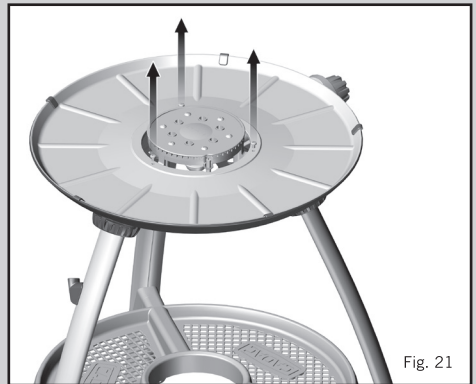
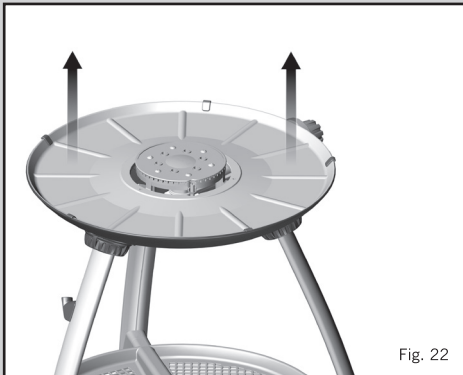
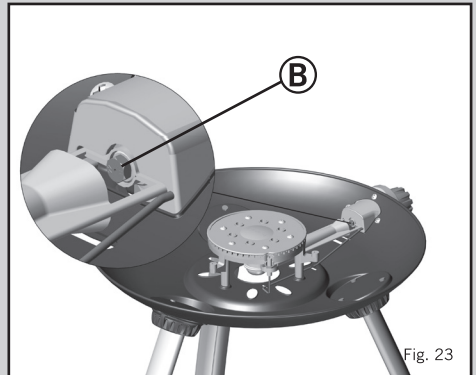

Fig. 21
Fig. 22
Fig. 23
- **To replace the Jet:** Remove the three screws from the heat shield plate (Fig. 21). Remove the Heat shield plate (Fig. 22), taking care not to damage the piezo electrode. The Jet (B) can now be removed using a suitable spanner (Fig. 23). Do not use pliers on the jet as this may damage the jet, making it unusable or impossible to remove. Screw the new jet into the valve. Do not over-tighten as this may damage the jet.